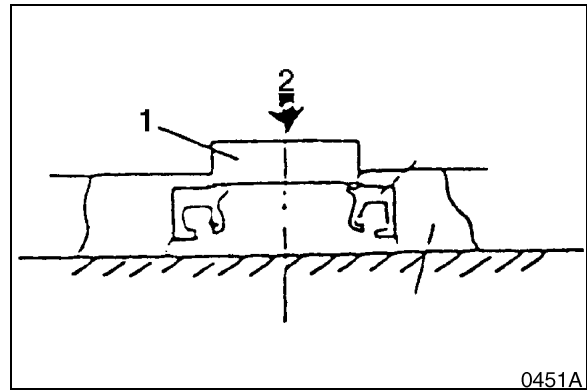

Figure 22
- A. Disassemble oil seal from the front cover if they were not separated during removal. Apply force (2, Figure 22) and use a plug (1) to hammer through drive shaft opening in cover.